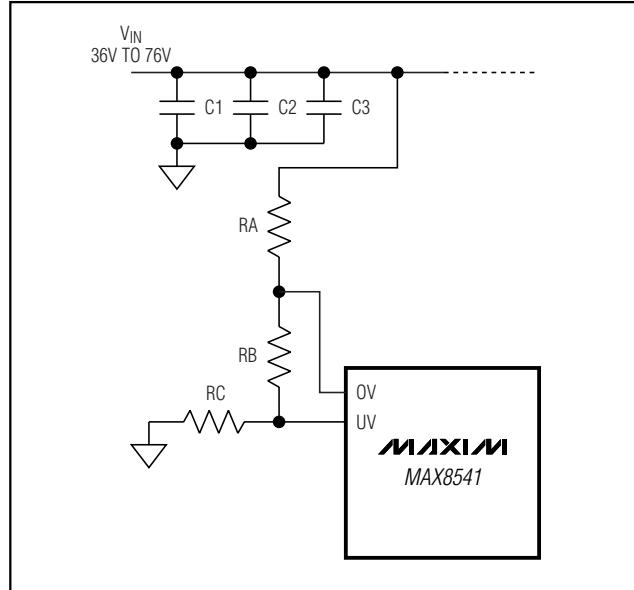

Figure 1. A Method to Set UV and OV Thresholds
An alternate method used in the application circuits for setting the OV and UV trip points is demonstrated in Figure 1. Use $36.5\text{k}\Omega$ for the bottom resistor (RC). RA and RB are calculated as follows: